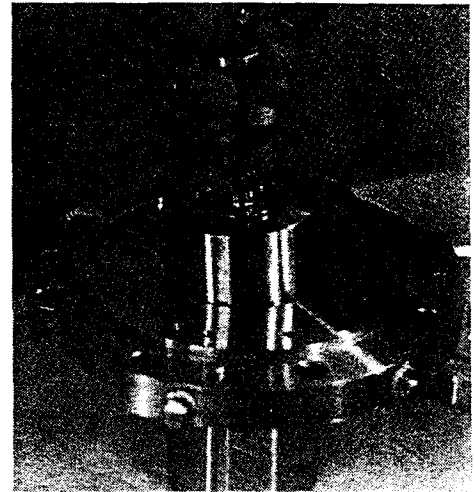

Figure 17
7. Thread the impeller nut (Item 6) onto the threaded end. Lift the inner magnet assembly by the impeller nut and slowly slide it into the rear casing [Fig. 17]. Be careful of the tight tolerances between the rear bushing and sleeve. This should only be done when the outer magnet is removed.